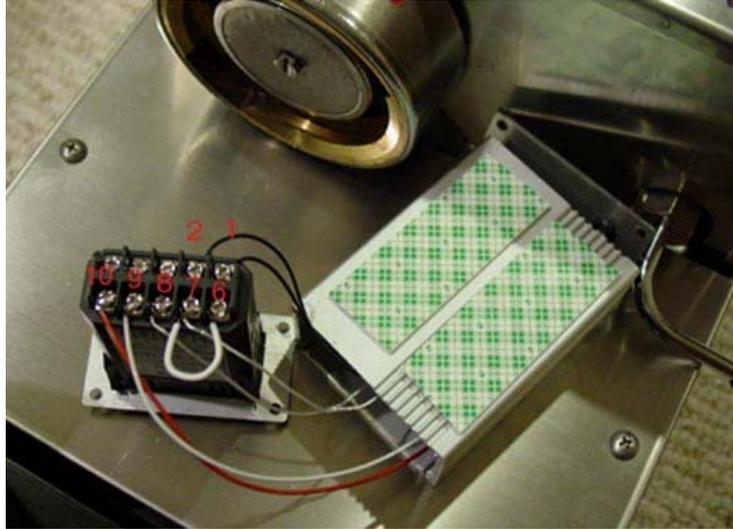
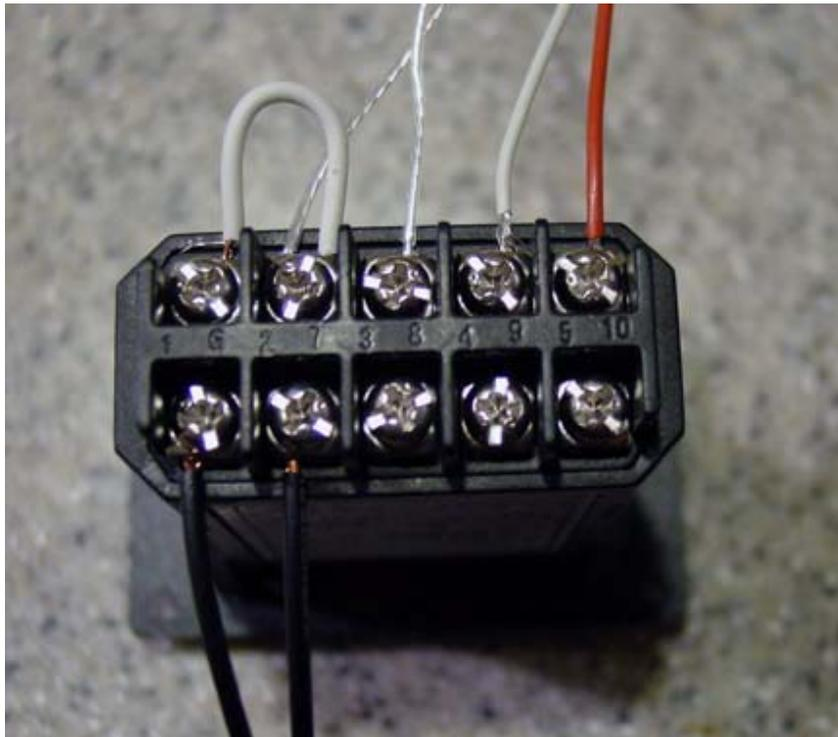
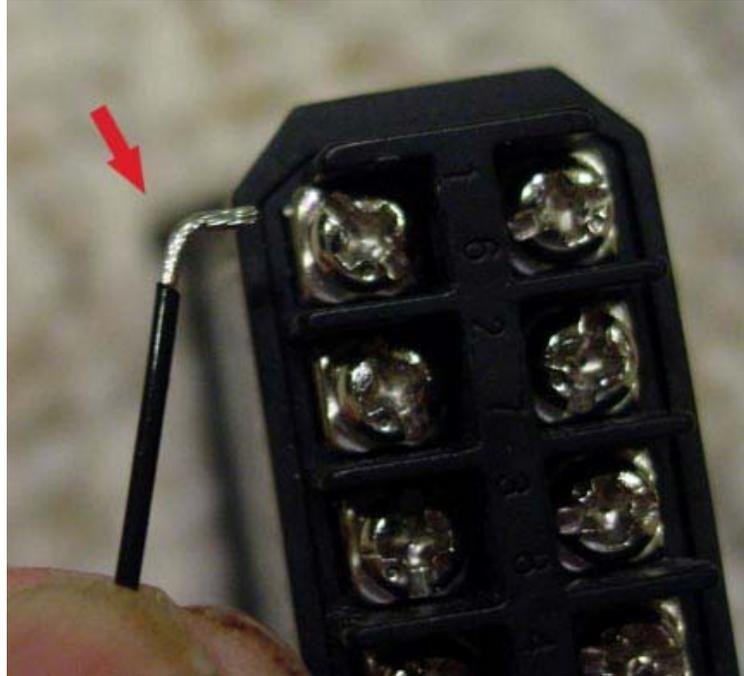

Figure 17. Wiring the controller.
Figure 18, Detailed view.
Figure 19. Bend the wire for easier to insert.
- 3) Feed the cables through the controller box. Connect them to the controller as shown in Fig 17. Wiring the controller correctly is very critical step. Failure to install it correctly can cause damage to the machine and electric shock. The terminal numbers are printed on labels located on both sides of the controller. The black colored power cables need to be connected to terminal 1 and 2. SSR input cable has a polarity. The red colored cable is for terminal 10 and white colored cable is for terminal 9. The RTD cable needs to be connected to terminal 7 and 8. The white colored RTD jumper cable needs to connect to terminal 6 and 7. See Fig 18. Bending the wire tip will make the insertion of the cable easier as shown in Fig 19. In order to prevent the cables from coming loose when pulling on them during box installation, make sure all cables are securely tightened by a screw driver. Also, make sure there are no small wires touching the other terminals, causing a short circuit.